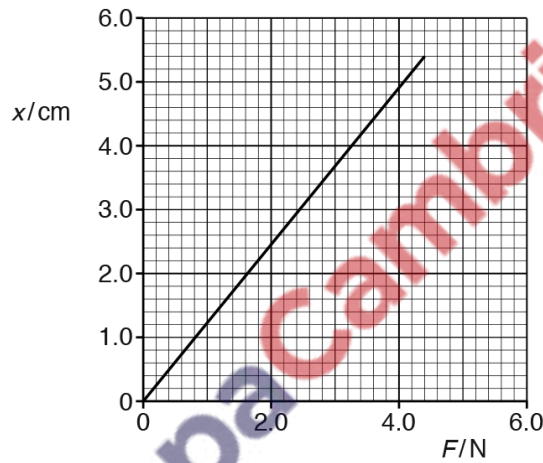

Fig. 3.2
The mass of T is 250 g. T compresses the spring by 5.4 cm as it comes to rest. The relationship between the force F applied to the block and the compression x of the spring is shown in Fig. 3.2.
- (a) Use Fig. 3.2 to determine